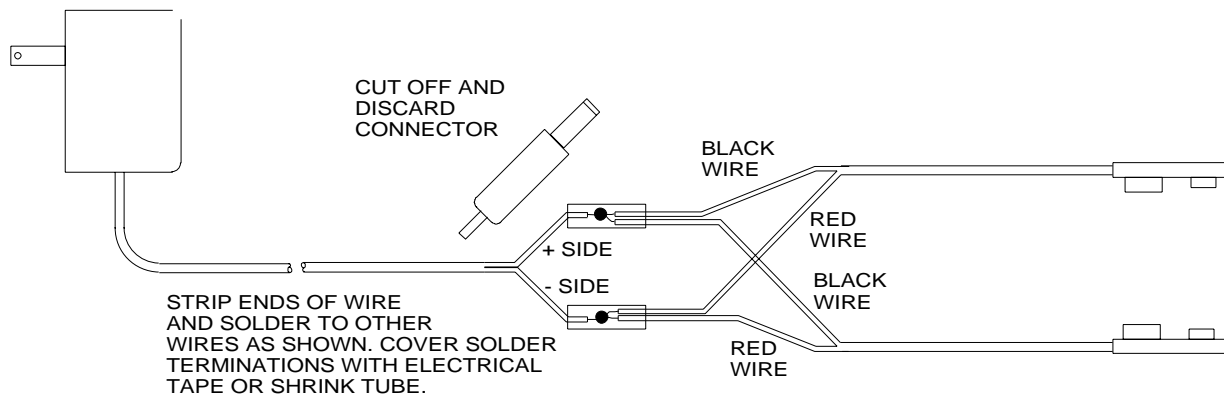

Figure 2 AC Power Supply Adapter Cable Assembly (alternate method).
- Alternatively, you can cut off the power source output connector, and splice the battery straps directly to the power source output wires as shown in Figure 2.